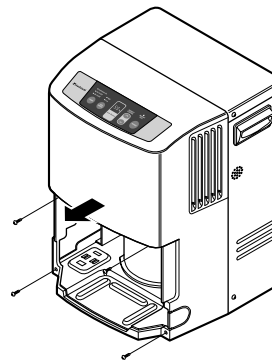

Figure 9
2. Pull the front case at the lower side to the front and push front case upward. (See Figure 9)